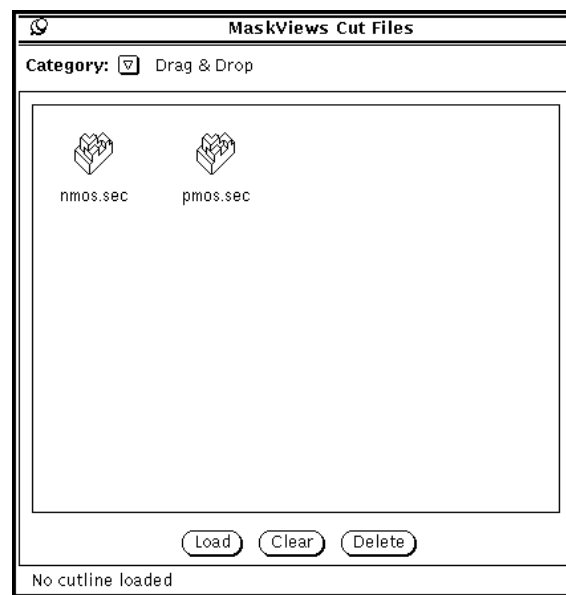

Figure 3-18: MaskViews Cut Files - Drag and Drop Category
2. Bring up the **MaskViews Cut Files** popup (Figure 3-18) in DECKBUILD and set **Category** to **Drag & Drop**. Both this popup and the cutline viewer popup from MASKVIEWS must be visible on your screen.